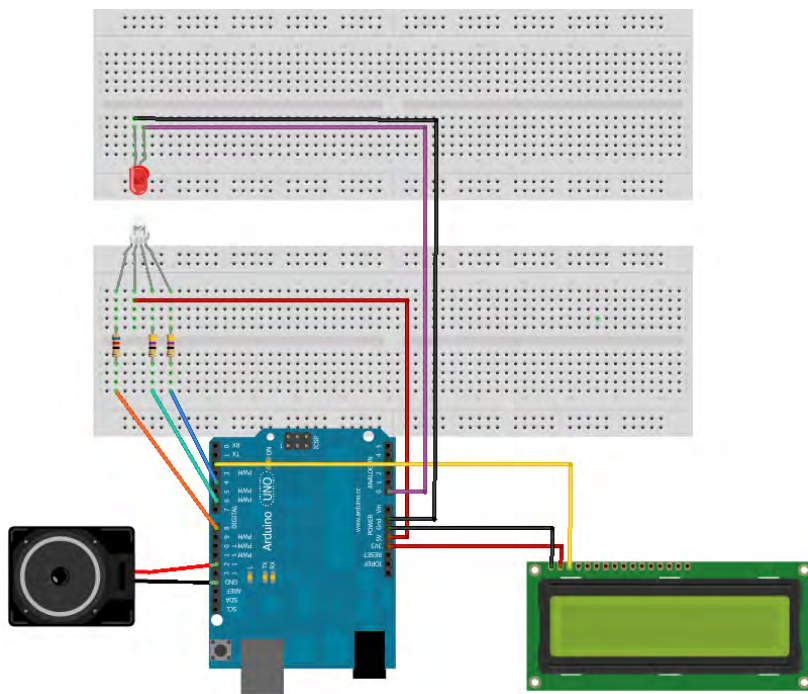

Figure 4-5. *Step five.*
6. **Connect the LED.** Hook up the anode to Arduino analog pin 0, and the cathode to GND (Figure 4-5).